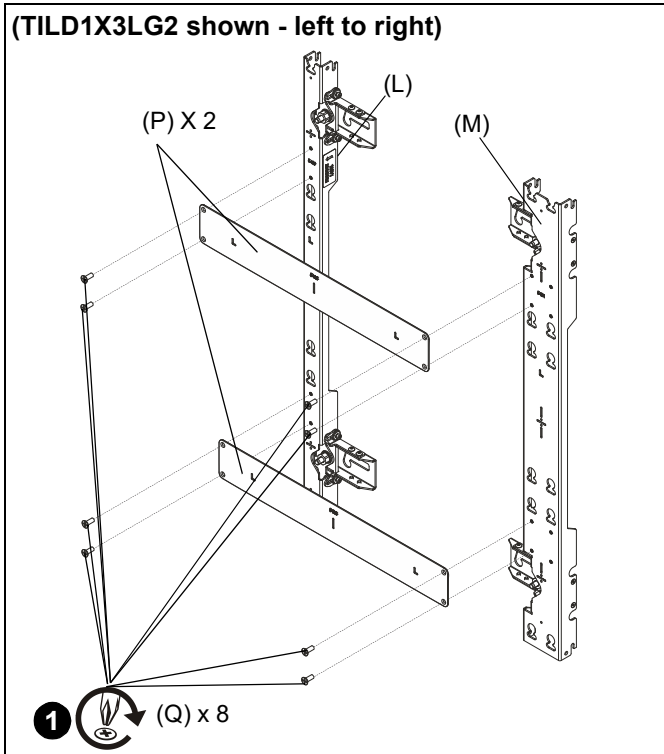
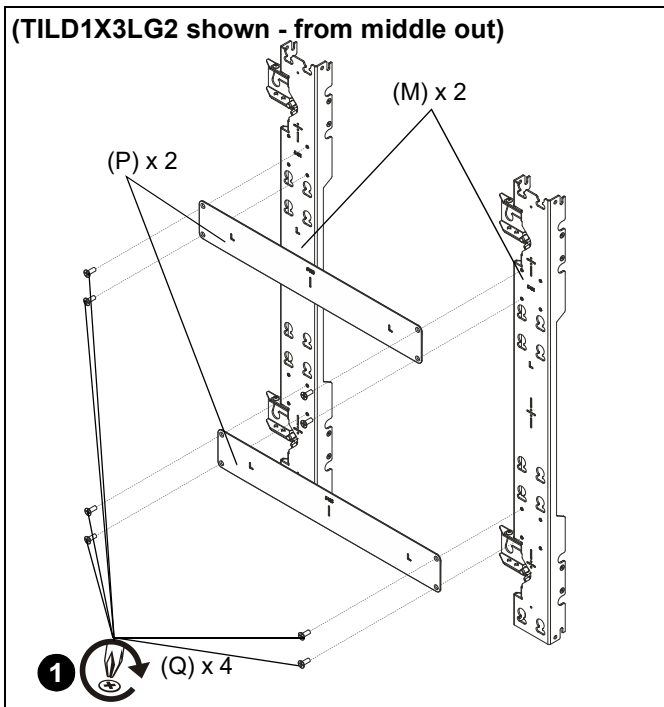

Figure 2
Figure 3
1. Use eight 10-24 x 1/2" flathead Phillips screws (Q) to secure two spacer plates (P) to mounting uprights (L and M or M and M). (See Figure 2) or (See Figure 3)
**IMPORTANT !** : If installing from left to right, first attach left upright (L) to middle upright (M). If installing from the middle out, first attach two middle uprights (M) to each other.